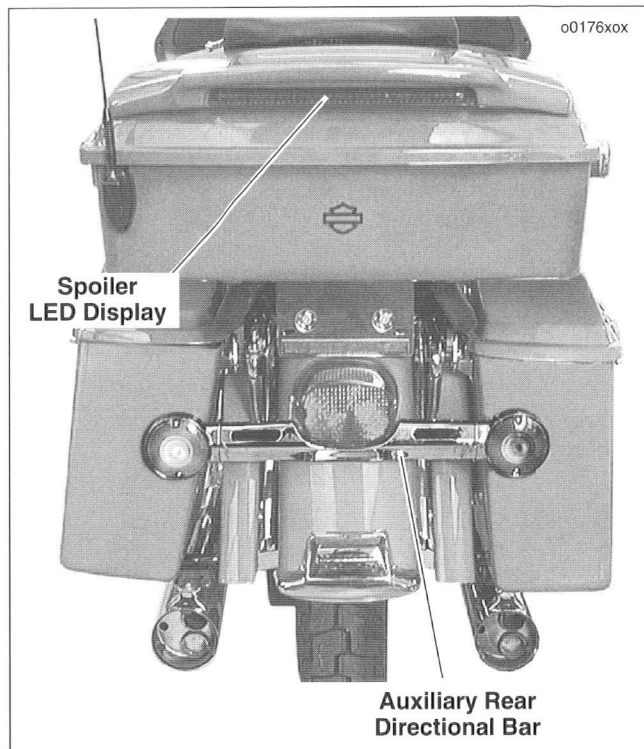

Figure 29. Rear Directional Bar
See Figure 29. The Screamin' Eagle® Road Glide® (FLTRSEI2) motorcycle has an auxiliary rear directional bar attached to the rear fender below the brake light. The directional bar is an LED display showing:
See Figure 29. The Screamin' Eagle® Road Glide® (FLTRSEI2) motorcycle has a decorative spoiler attached to the top of the TOUR-PAK. The spoiler contains a brake/running LED display showing:
6. Insert the TORX® fastener through the hole in the bottom of fairing lower and the "P" clamp. Holding the locknut in place, use a T40 TORX® drive head and turn the TORX® fastener clockwise (CW). Tighten TORX® fastener to 12 ft-lbs (16.3 Nm) torque.
8. See Figure 29. Install two phillips head fasteners to secure fairing lower cap. Tighten fasteners to 10-20 **in-lbs** (1.1-2.3 Nm) torque.